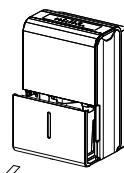

Fig.1
- Slowly pull out the bucket. Grip the left and right handles securely, and carefully pull it out straight so that water does not spill (see Fig. 1). Do not set the bucket on the floor because the bottom of the bucket is not level/flat. The bucket will fall and cause the water to spill.